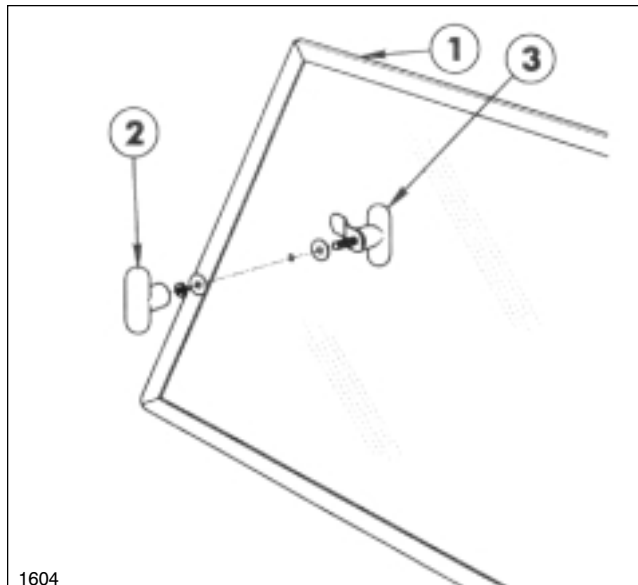

FIG. 9
28. Install the Inner Door Latch Assembly through the 5/16" hole in Door with the flatwasher between latch and glass. See FIG. 9.